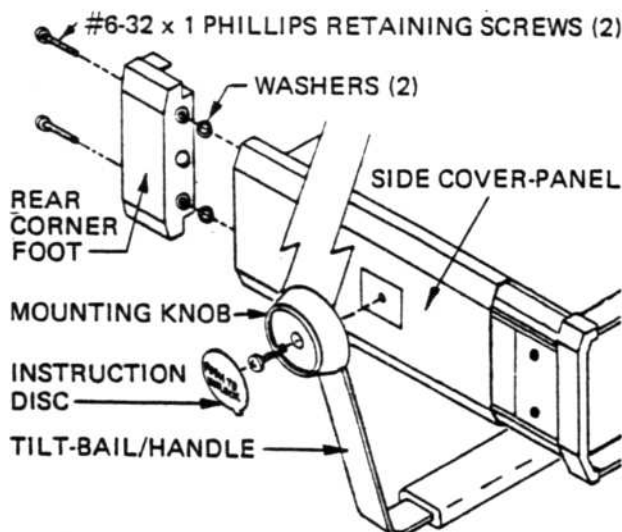

Figure 5.7 - Side Cover Panel Removal
5.4.3.2 Side Cover Panels - refer to Figure 5.7 as required in completing this procedure.